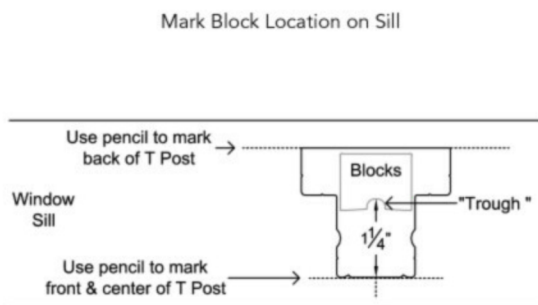

Fig. 8.1
- Attach two stacked T Post blocks to the sill so that the back of the "trough" of the block is 1 1/4" from the front center mark of the T Post. (See Fig. 8.1)